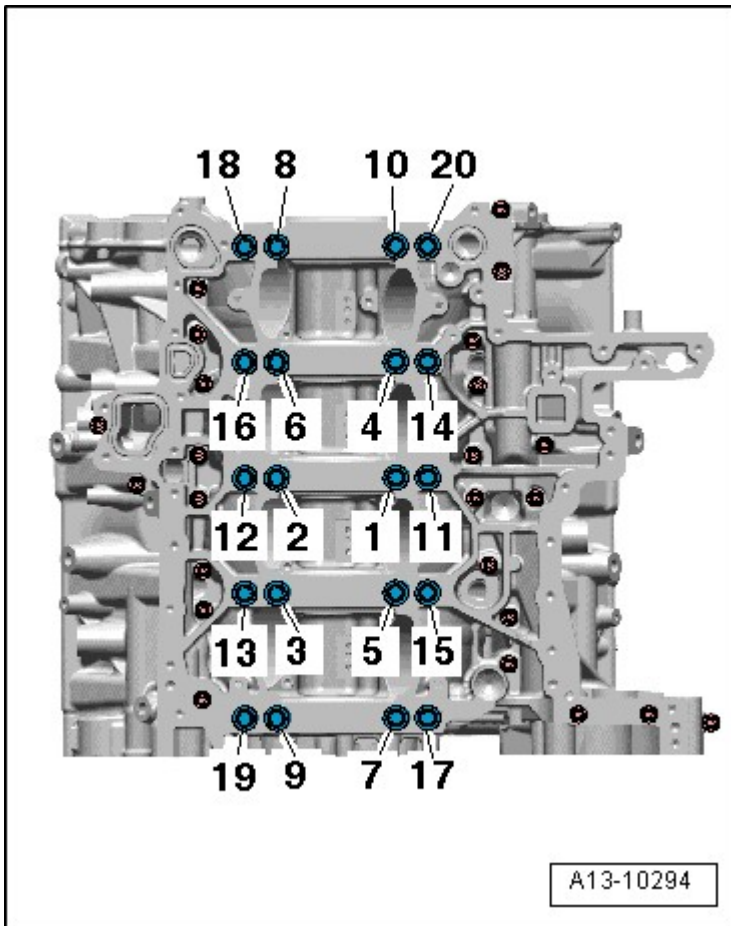

Fig. 5: Guide Frame Bolts Tightening Sequence
- Tightening specification and sequence, refer to **Fig. 5**
- Tightening sequence, refer to **Fig. 5**